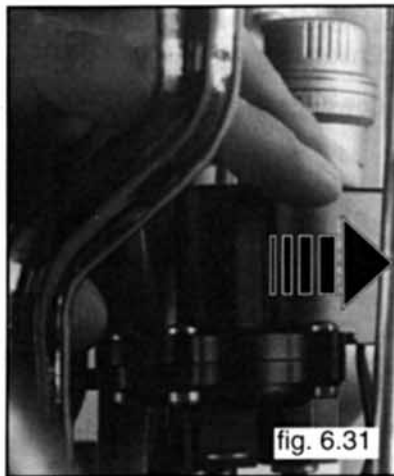

fig. 6.31
- 2 remove the switch box by pulling firmly towards the back of the boiler (see fig. 6.31).